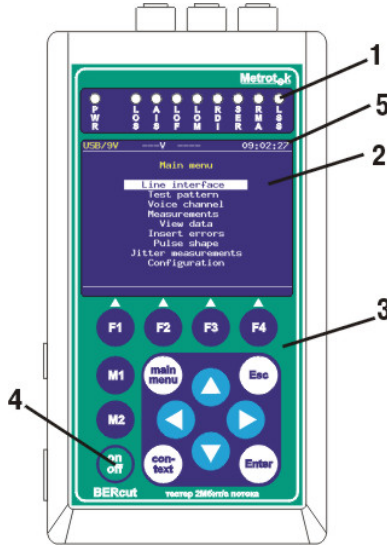

Figure 4.1. Front panel
4.1.1. The front panel of the “BERcut-E1” analyser is shown on the Figure 4.1.